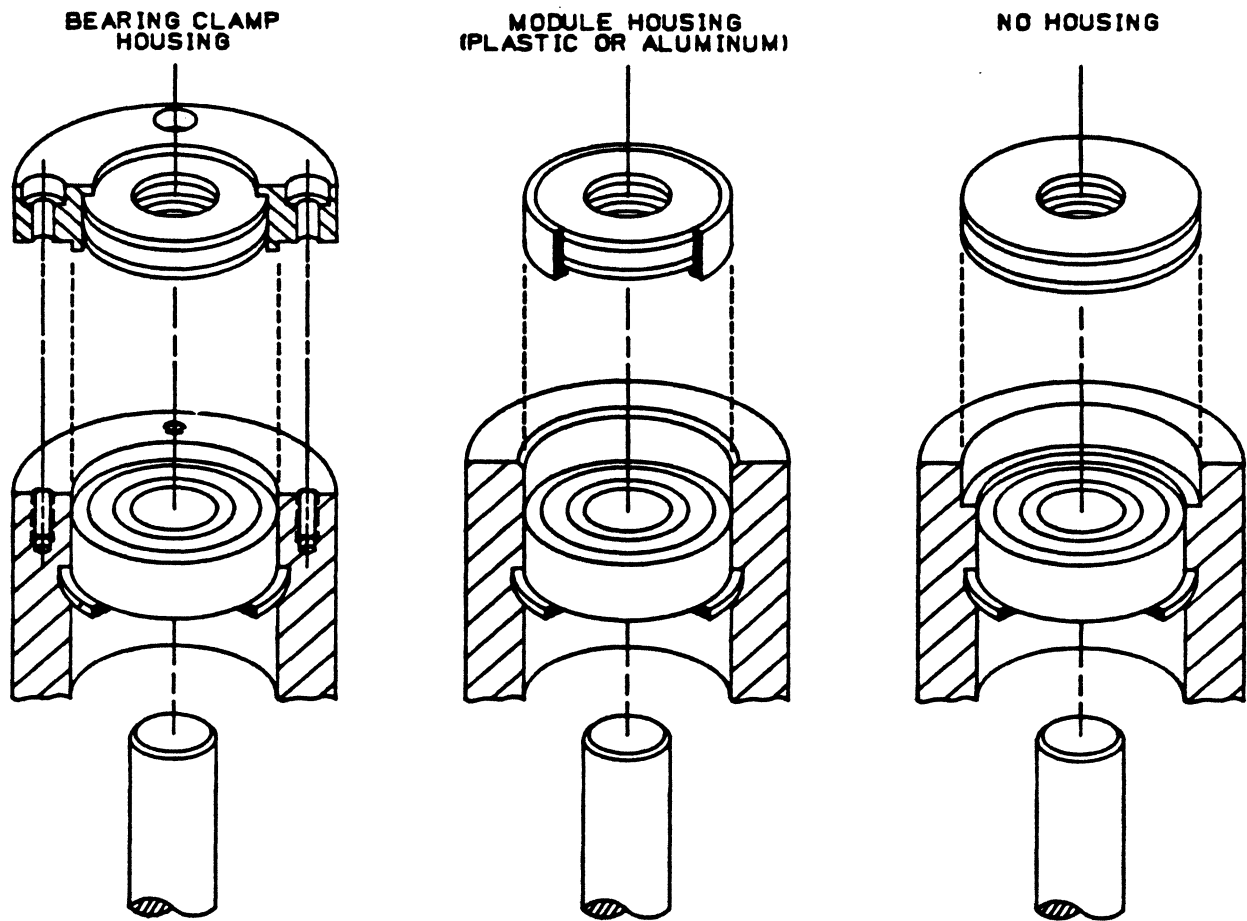

FIGURE 7
- Method of attaching the seal to the housing (Fig. 7).